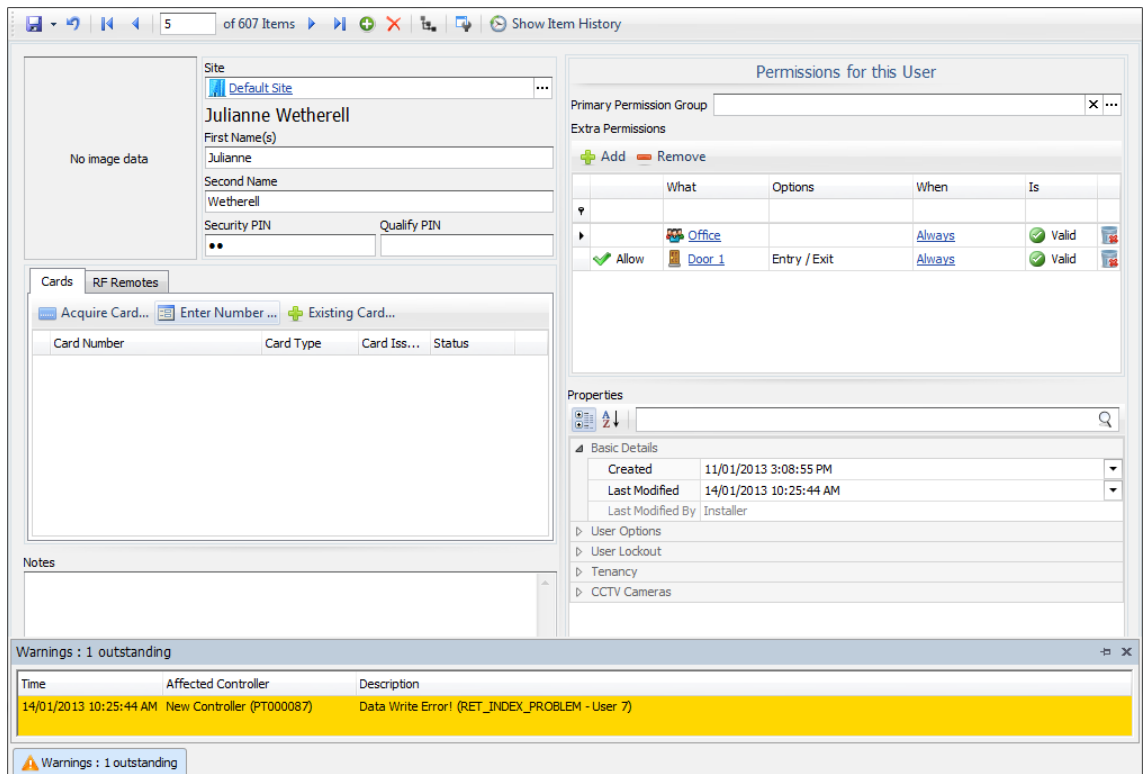

Figure 103
- A warning message will appear at the bottom of the users programming window (*Figure 103*).